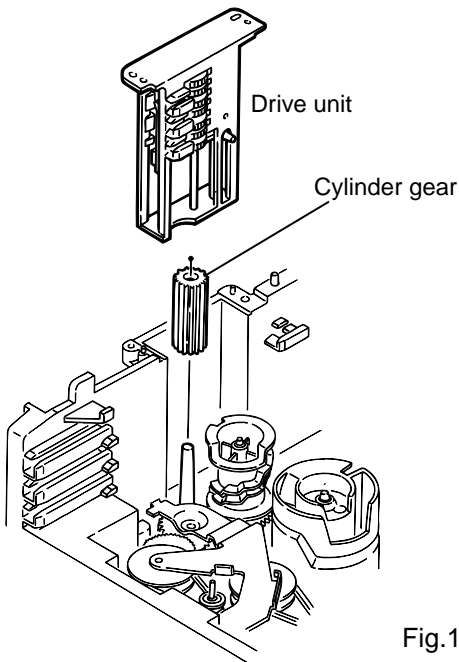

Fig.16
2. While turning the cam gear "q", align the pawl "r" position of the drive unit to the notch position(Fig.16) on the cam gear "q".